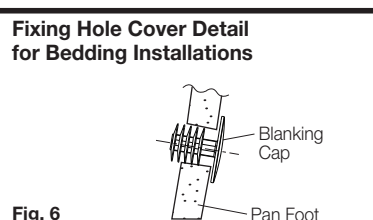

Fig. 6
- 3- Locate blanking cap (supplied) into pan fixing holes as detailed in Fig. 6.